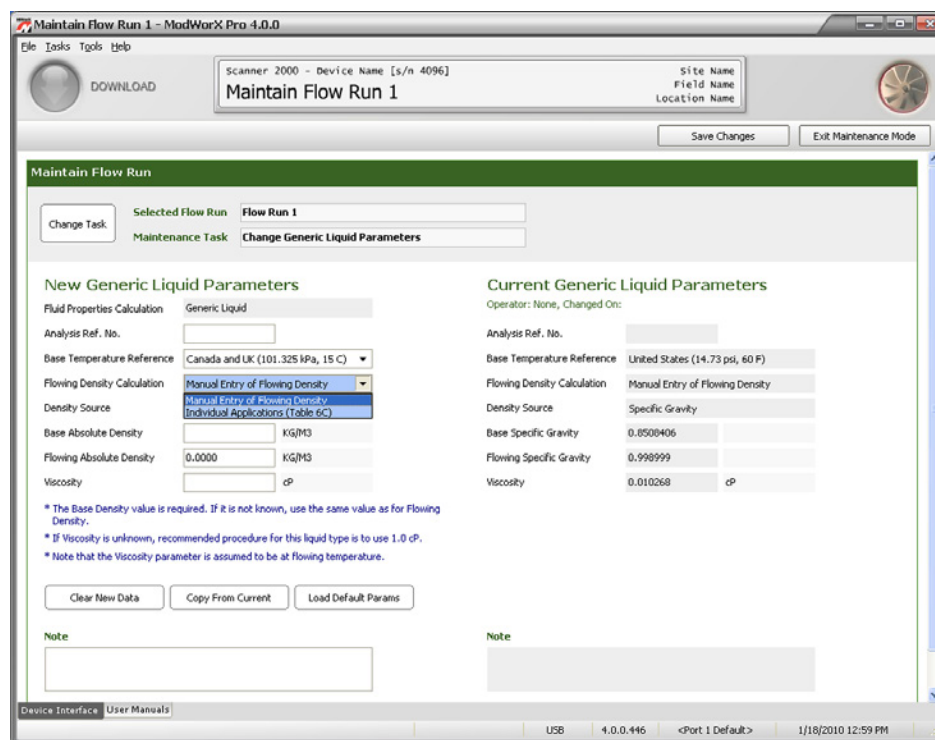

Figure C.6
6. Select the method for calculating flowing density in the Flowing Density Calculation field (Figure C.6, page C-6). Select either **Manual Entry of Flowing Density** or **Individual Applications (Table 6C)**.